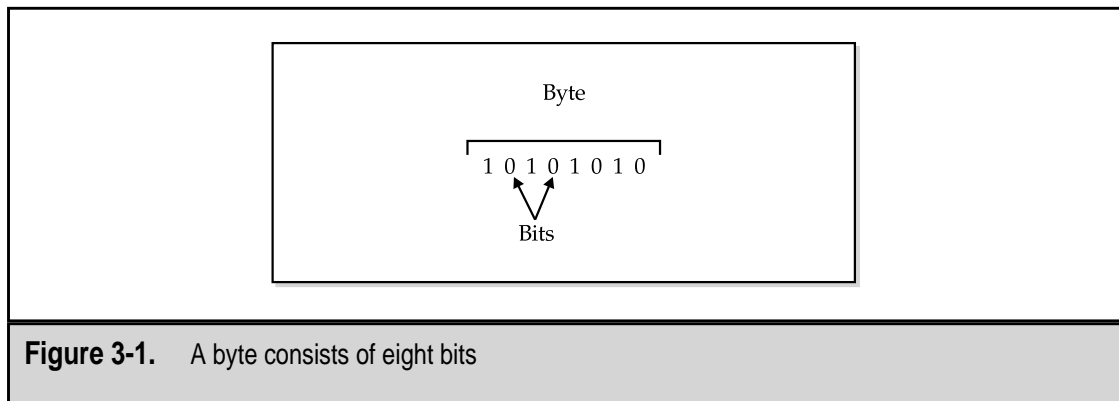

Figure 3-1. A byte consists of eight bits
- A *byte* (pronounced “bite”; the common 8-bit binary word), depicted in Figure 3-1, is probably the computer storage unit you hear the most about. The memory and storage on the computer are normally expressed in bytes. As you will see later in this chapter (“Storing Data in a Byte”), a single byte can hold the binary values equal to 0 to 255 in decimal.